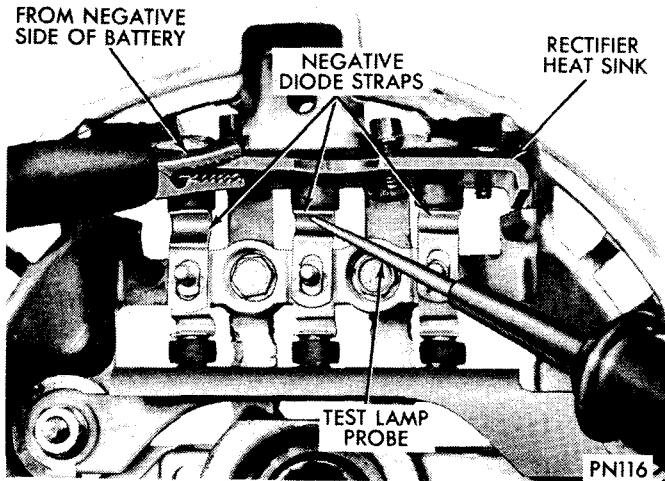

Fig. 18—Testing Negative Rectifiers with Test Lamp
- (5) Reverse the probes, moving probe from rectifier heat sink to rectifier strap and the probe from rectifier strap to rectifier heat sink (Fig. 18).
- (6) Repeat the above procedure for all rectifiers in both assemblies; change rectifier and heat sink assemblies which have shorted or open rectifiers. The lamp should light in the same direction for all rectifiers on each assembly.